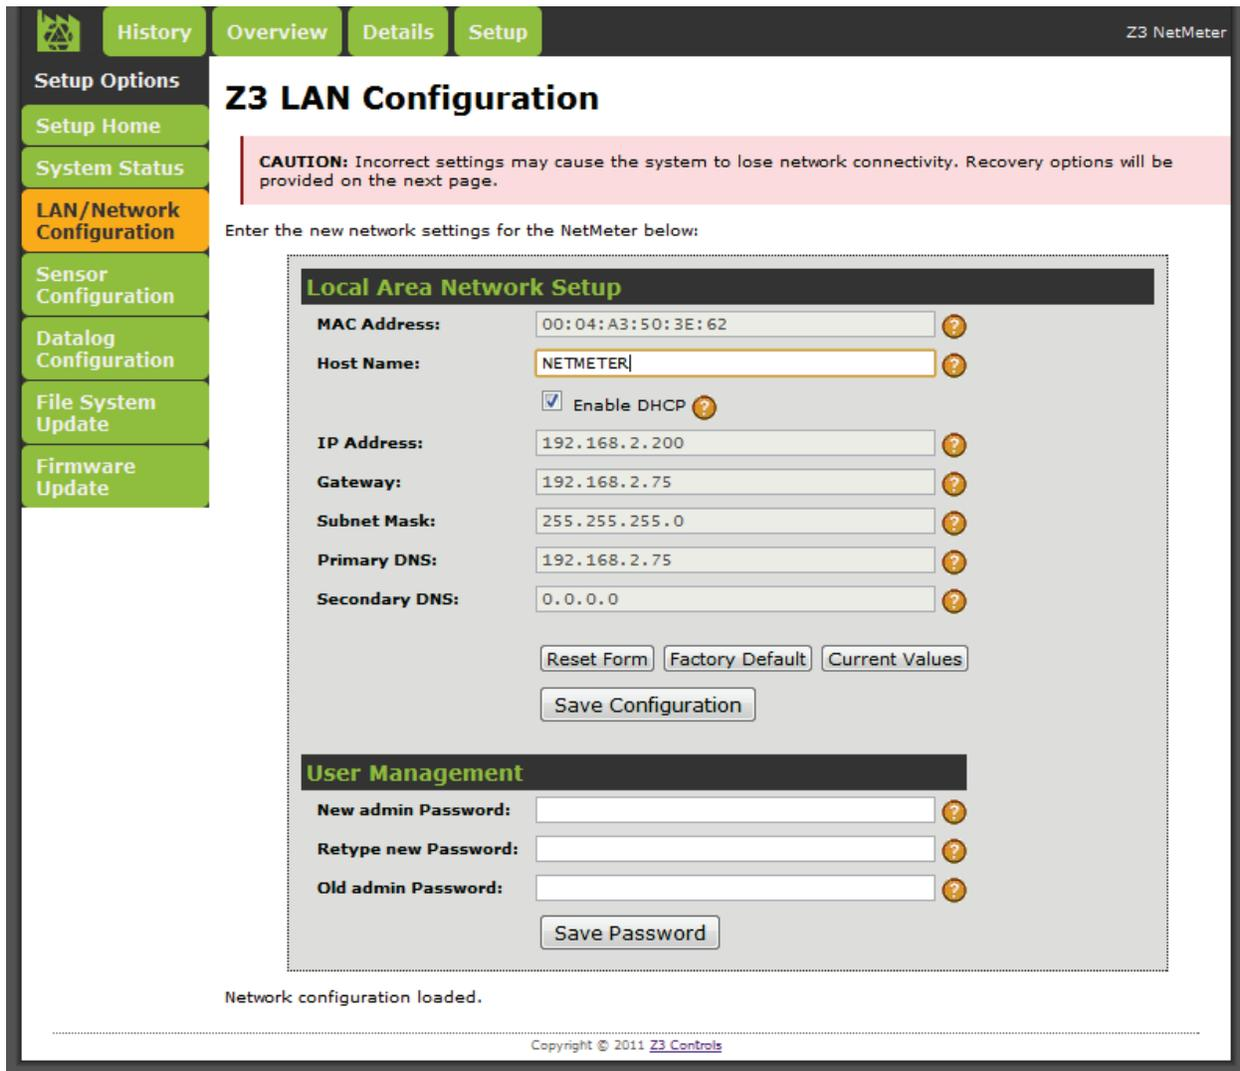

Figure 12: LAN/Network Configuration Page
Step 7: Network Configuration: the way that the NetMeter communicates on the local area network is configured through the Lan/Network Configuration as shown in Figure 12.